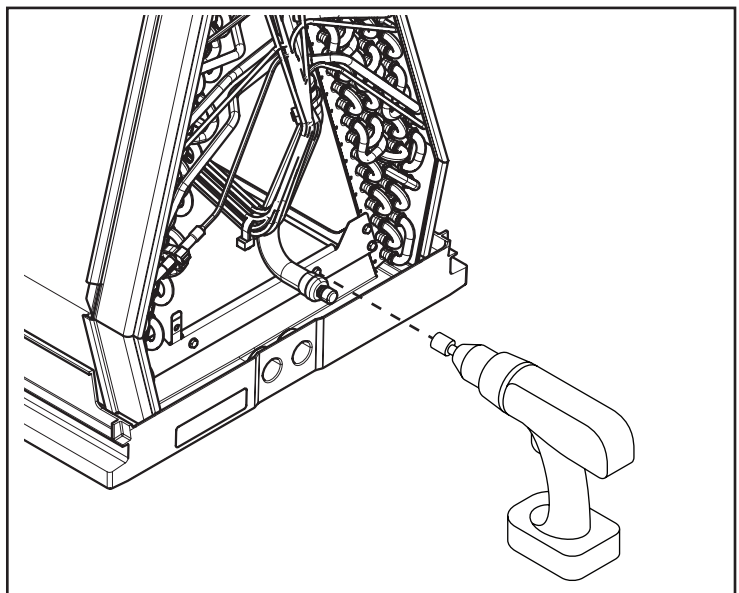

Figure 33 – Attach Downflow Drain Pan
2. Set the replacement coil on top of the downflow drain pan assembly. Attach the downflow drain pan assembly to the two bottom coil brackets using four screws as shown in Figure 33.